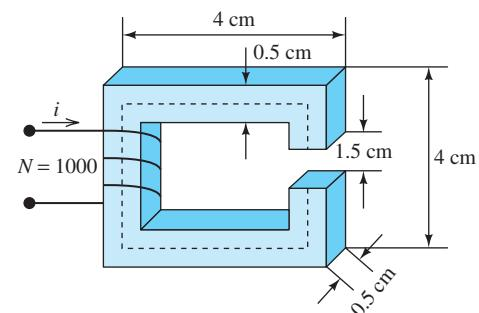

FIGURE P12.22 Magnetic circuit with air gap.
12.22 (A) Find the flux and the flux density in the gap for the magnetic circuit shown in Figure P12.22, given $\mu_{r\text{core}} = 3000$ and $i = 5$ A.